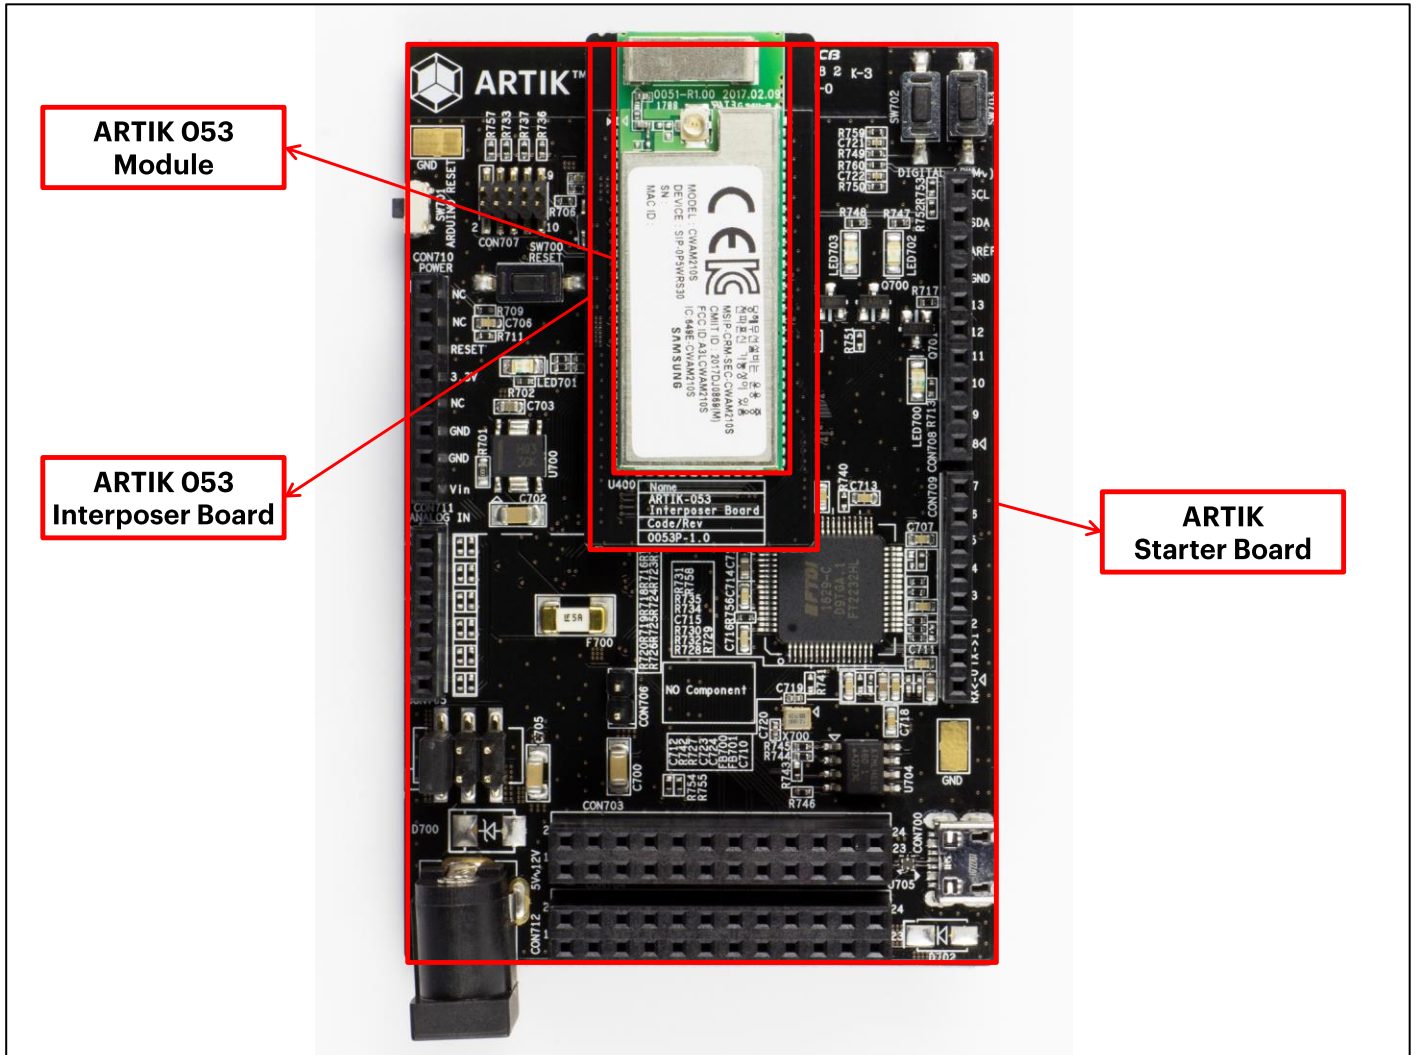

Figure 1. Preview of the ARTIK 053 Starter Kit
- Figure 1. Preview of the ARTIK 053 Starter Kit 6
The ARTIK 053 Starter Kit is an affordable approach for developing an IoT solution. *Figure 1* shows a picture of the ARTIK 053 Starter Kit that includes the Starter Board, the Interposer Board and the ARTIK 053 Module.